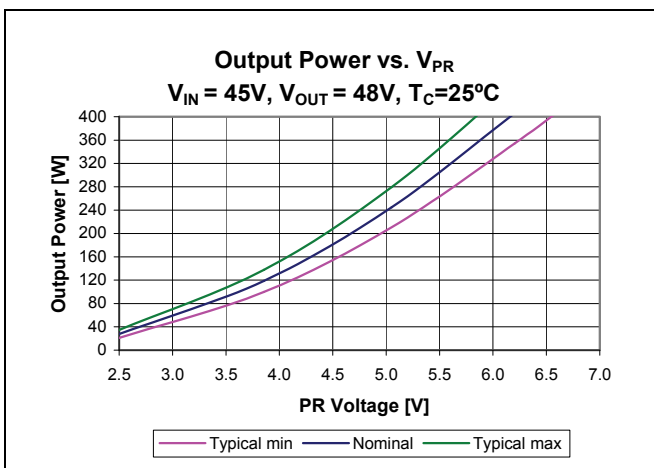

Figure 21 – Output Power vs. V_{PR} ; $V_{IN} = 45\text{ V}$, $V_{OUT} = 48\text{ V}$, $T_{CASE} = 25^\circ\text{C}$
Control node (PR) is the input to the control node which determines the powertrain timing and ultimately the module output power (Figure 21). An internal 0.5mA current sink is always active. The bi-directional buffer between PR and the control node has two states. In normal operation, PR will be above the 0.79V switching threshold, and will drive the control node through the buffer. An internal 7.4V clamp determines the maximum output power that can be requested of the modulator.